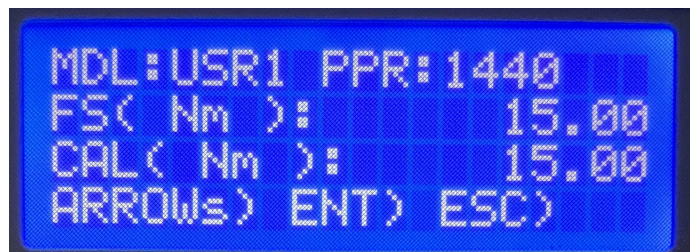

Figure 5. Define Transducers
2. From the Cal Menu press, 2 to define the transducer or load cell. The 922 will display the Define Transducer screen as shown in Figure 5 below.
- You can press 1 to select a different transducer from the library. When you press 1, the 922 will briefly display how many tools are in memory, and then display the first of transducers in the library, as previously shown in Figure 5.